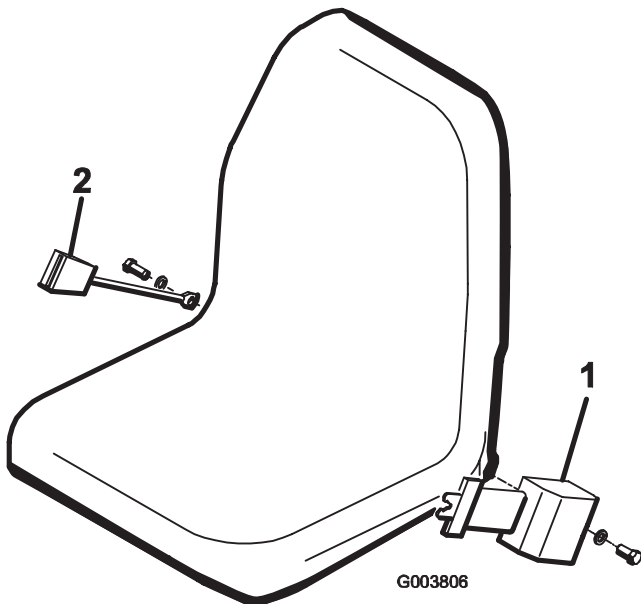

Figure 1
1. Mount the seat belt to the holes in the side of the seat with 2 bolts (7/16 x 1 inch) and lockwashers (7/16 inch). Tighten the bolts securely. The latch side of the seat belt is to be mounted to the left side of the seat (Fig. 1).